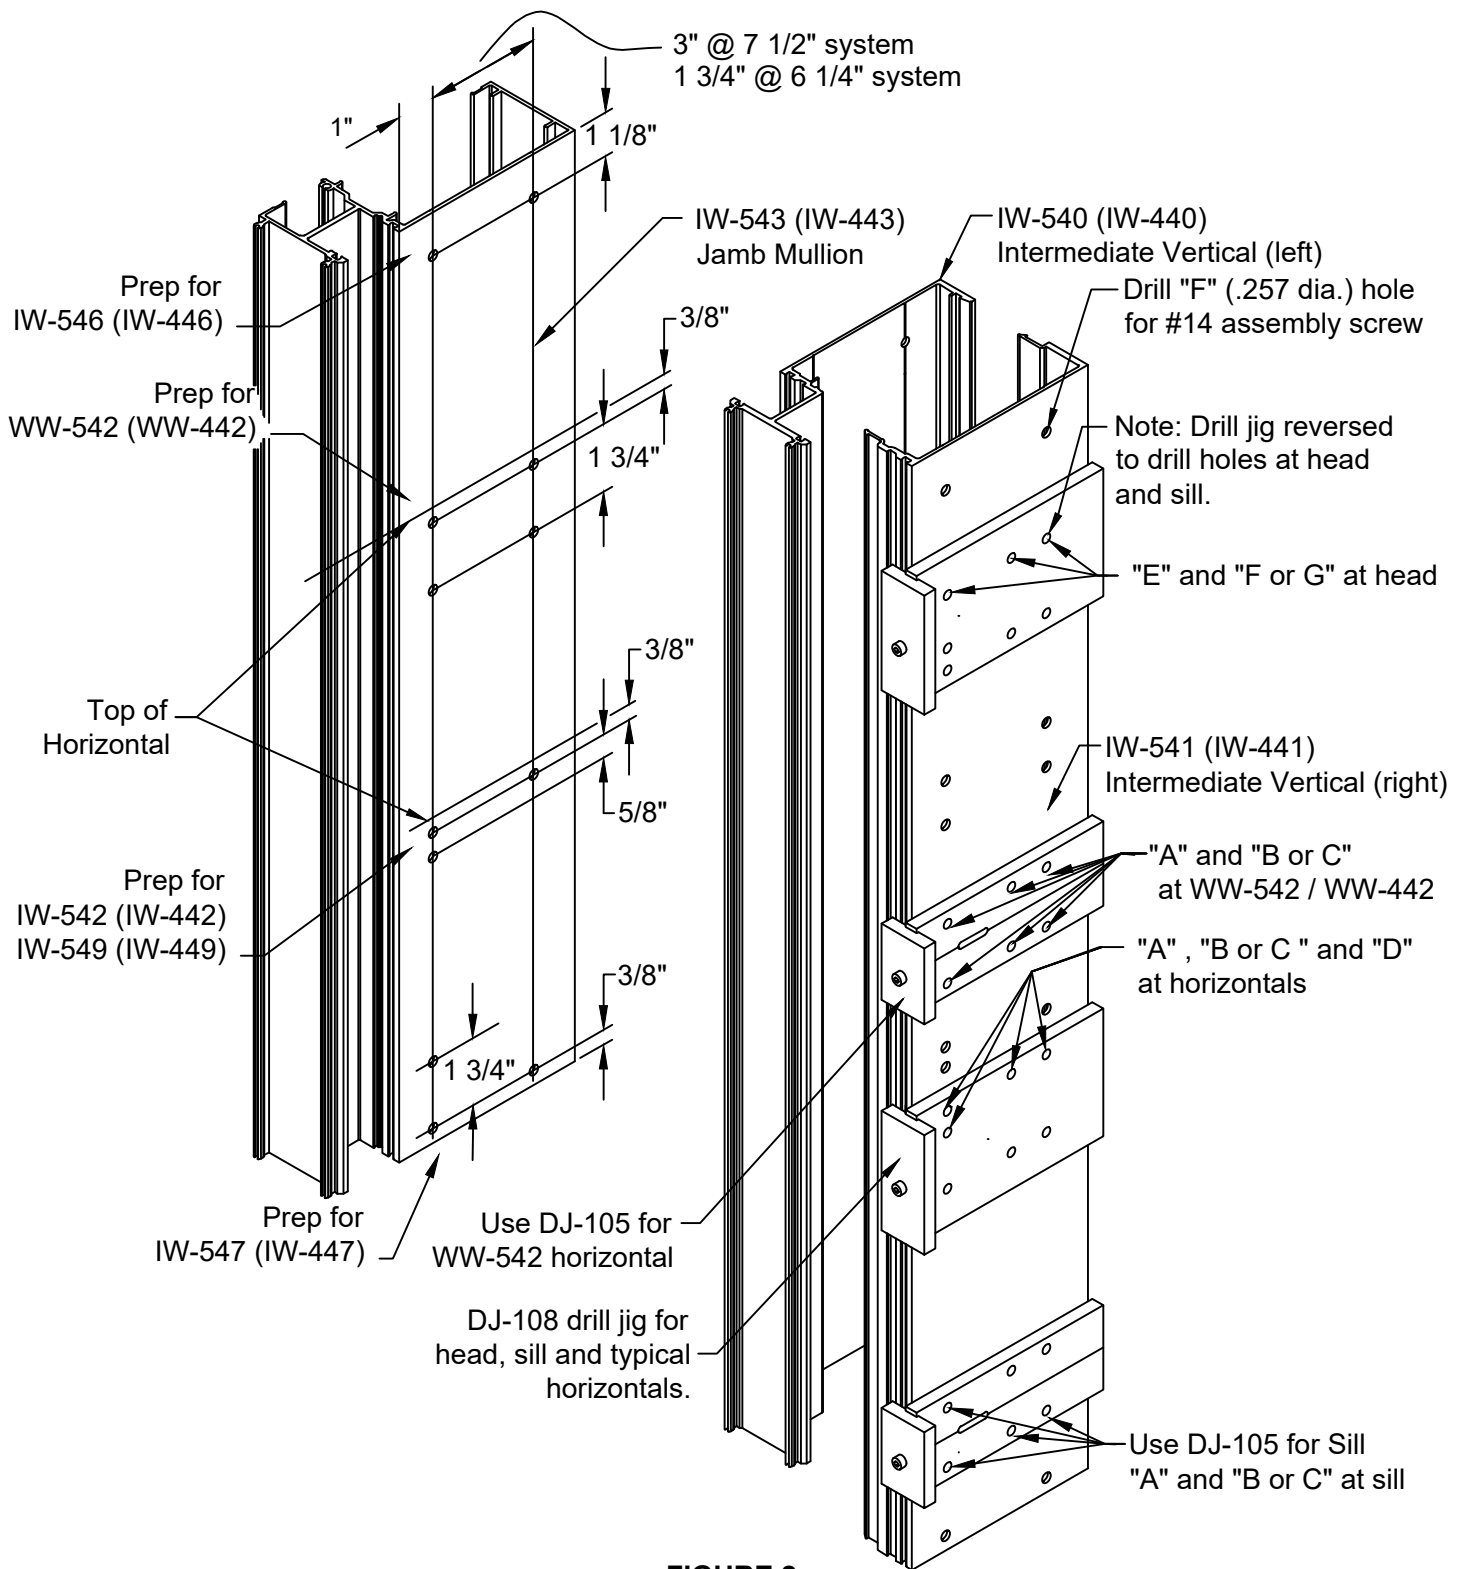

FIGURE 2
- 1.3 Fabricate vertical mullions for horizontal members with EZ Punch tooling or DJ-108 drill jig. See FIGURE 2, page 8 for hole locations. Use 'F' drill (.257 dia.) for assembly screws. Prep for head and sill will be drilled by aligning drill jig with ends of mullions. Prep at intermediate horizontals, mark line at top of horizontal and align drill jig with that line as shown in FIGURE 2, page 8. Use DJ-105 for fabrication of WW-542 exterior glazed horizontal, drill all four holes.